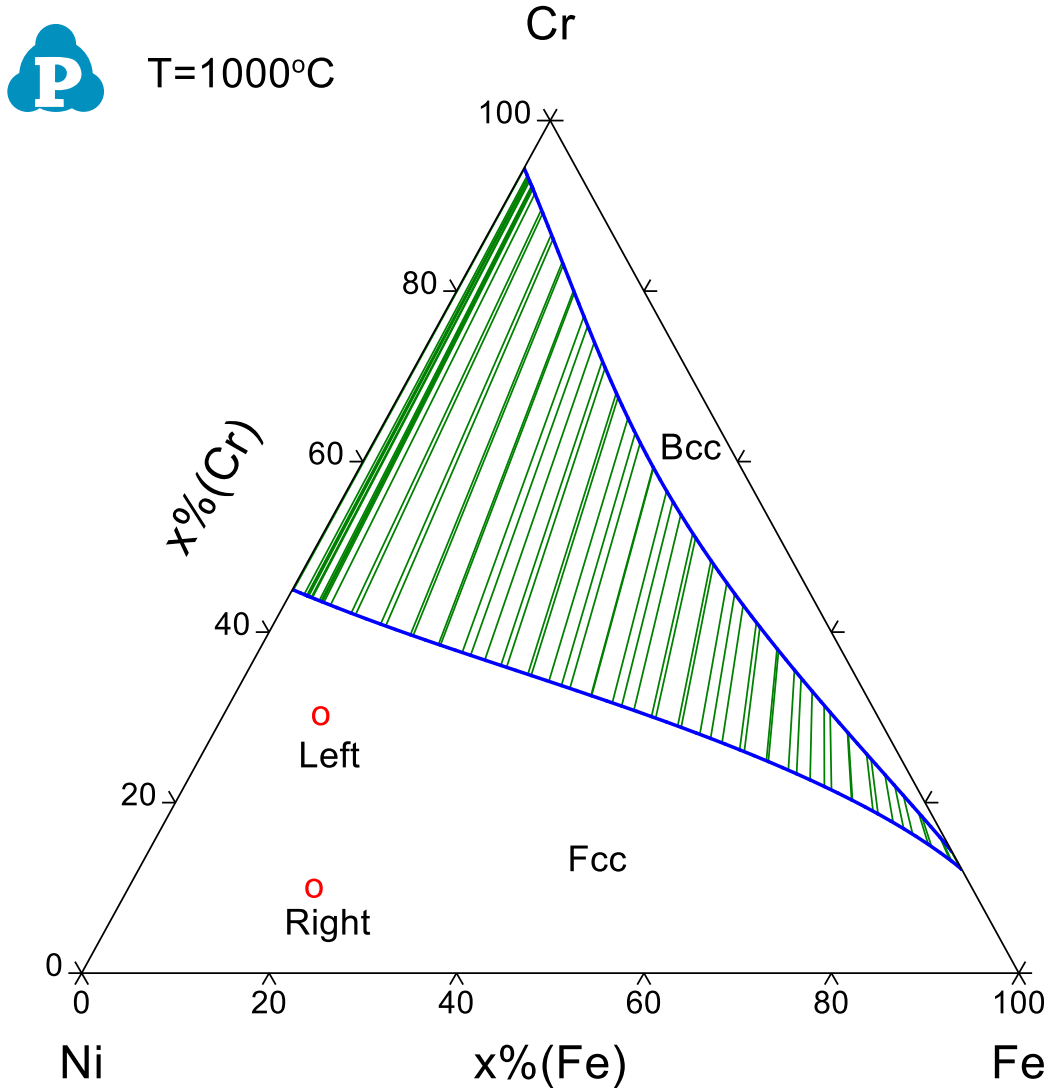

Figure 4.1.4: Isothermal section of Ni-Cr-Fe at 1000°C, the initial compositions of both sides locate in the single Fcc phase field
- In this example, the initial compositions of the two regions of the diffusion couple are both in the single Fcc phase field as shown in the isotherm of Fe-Cr-Ni at 1000°C in Figure 4.1.4;